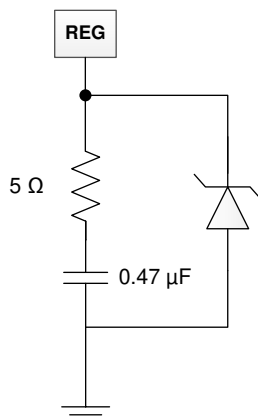

### Figure 9-2. 3-Series BQ2961 and BQ2962 Schematic
1. If the VSS pin cannot be connected first, it is required to add a resistor of a minimum of 5  $\Omega$  to a maximum of 10  $\Omega$  (a 5- $\Omega$  resistor is used in the reference schematic, Figure 9-2) in series with the REG capacitor. When VSS is floating, the REG capacitor always charges up to the VDD voltage. When VSS is finally connected, the REG capacitor will be discharged. Adding a small resistor in series reduces the current strength and avoids any potential damage to the REG pin. The 5- $\Omega$  resistor can be placed in series with the REG connect circuit (as shown in Figure 9-2) or in series of the REG capacitor (as shown in Figure 9-3). Placing the resistor in series with the REG circuit results in a small drop of  $V_{REG}$  (for example: max loading of  $I_{REG}$  mA with a 5- $\Omega$  resistor will drop 5 mV on  $V_{REG}$ ), but such a connection can protect against rush current discharge from a REG capacitor or an external filter capacitor connected to the REG pin. Placing the resistor in series with the REG capacitor is an alternative to avoiding an additional drop in  $V_{REG}$  if the filter capacitor used by the external circuit is much smaller than the REG capacitor.
3. The cell should be connected to the lower  $V_n$  pin; the unused  $V_n$  pin should be shorted to the ( $V_{n-1}$ ) pin. See Figure 9-2 for details.